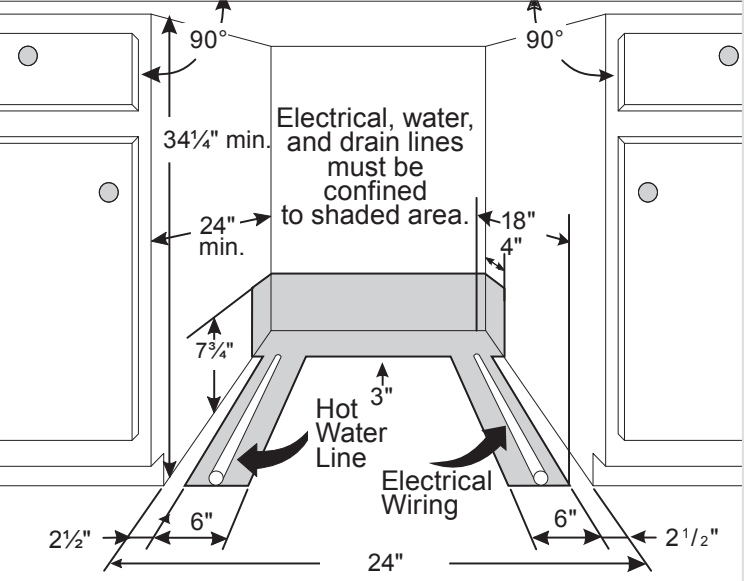

Figure 2
For proper operation and appearance of unit, cabinet opening should have dimensions as shown in Figure 2. If unit is to be placed in a corner, there must be at least a 2 inch (2") side clearance to open door.
- Electrical, water, and drain lines must be confined to shaded areas in Figure 2.
- All connections must be made in shaded area in Figure 2.
- Cut access hole within the shaded area shown in Figure 2.
- Cut water access hole in shaded area in Figure 2.
- Before cutting drain hose access, check both sides of selected area to avoid interference. Cut a 2" diameter hole in shaded area shown in Figure 2.